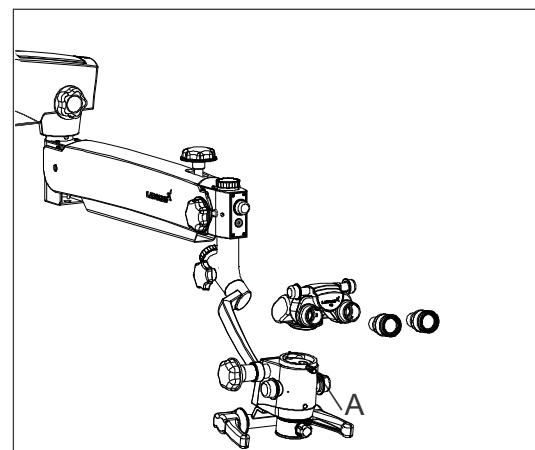

Fig. 6
7.5 Install the binocular head and eyepieces on the magni-changer. Secure the binocular head with head locking screw shown as (A) in figure 6.